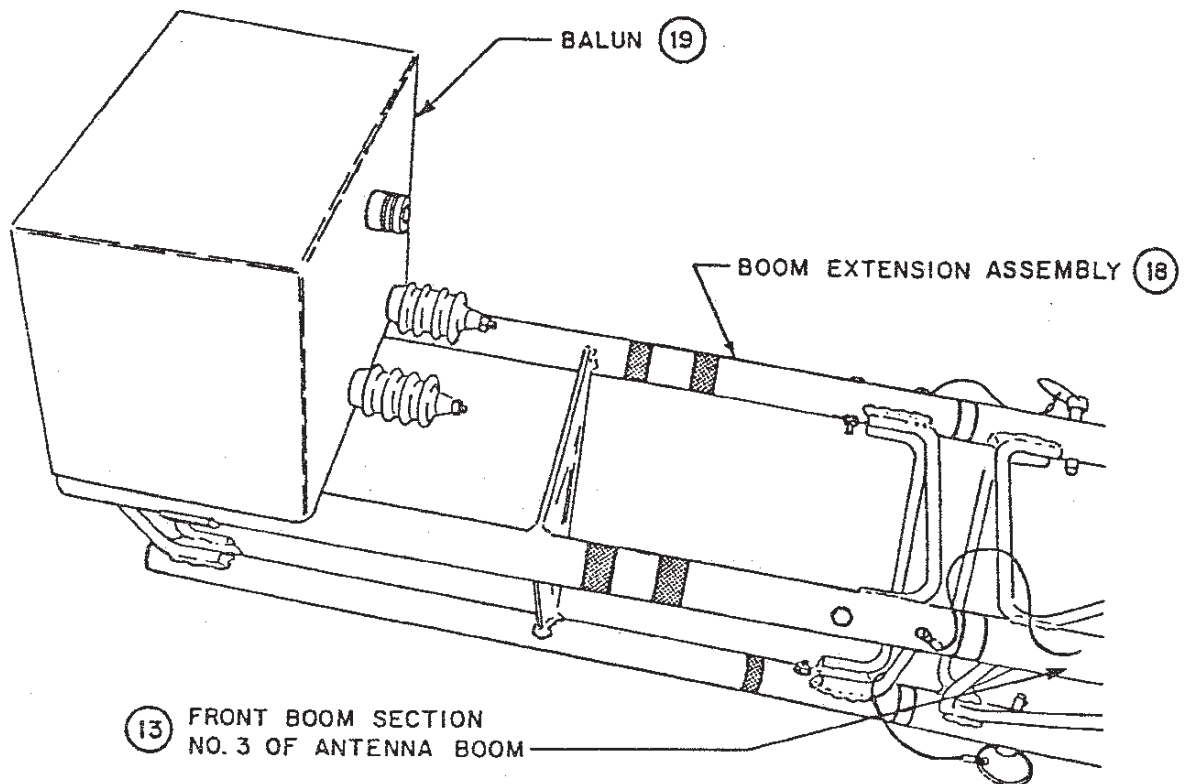

Figure 2-34
- g. Two men will remove the boom extension assembly with feedline from the box and attach it on the end of the front antenna section as shown in Figure 2-34. The assembly will be completed in the same manner as the tower sections were assembled. Make sure that the hardware connections are secure on the tower, rotator and boom sections.